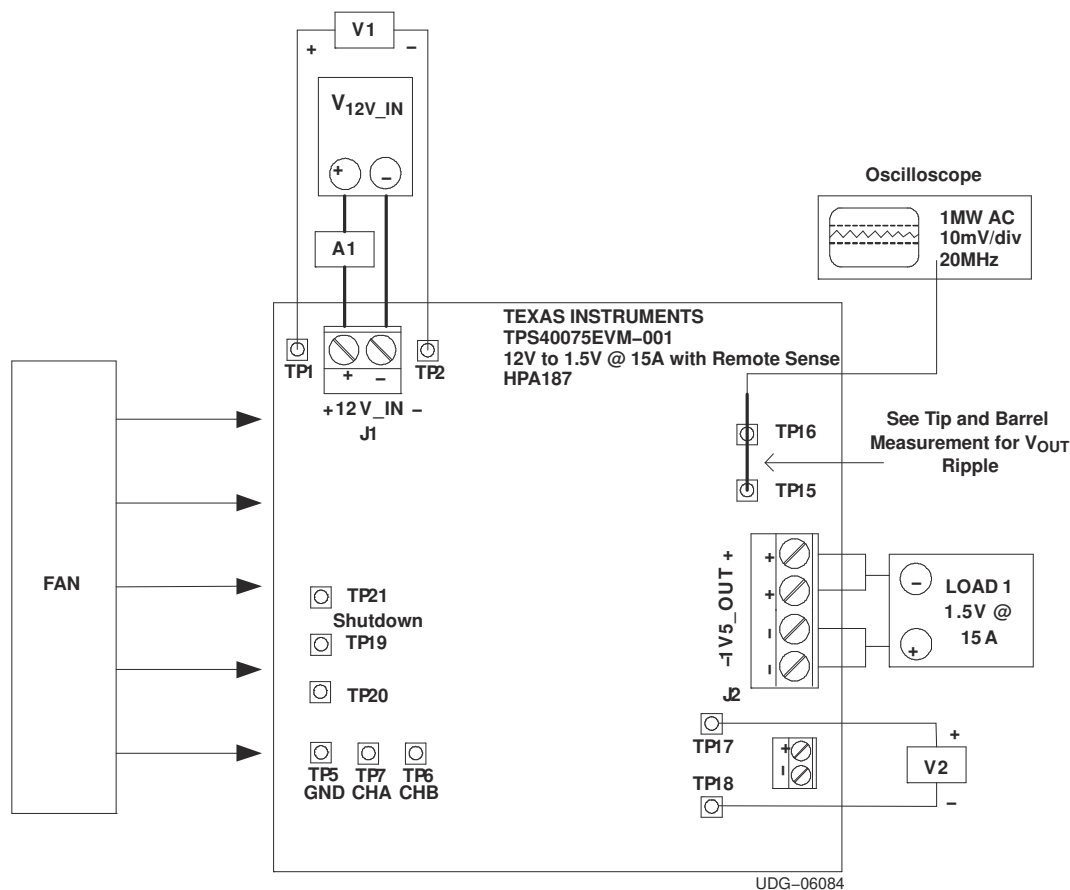
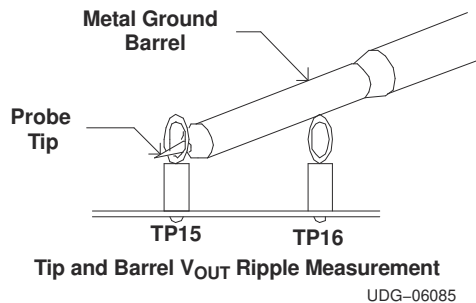

Figure 4-1. TPS40075EVM-001 Recommended Test Setup
Figure 4-2. Output Ripple Measurement – Tip and Barrel using TP15 and TP16
The input voltage source (V_{12V_IN}) should be a variable DC source between 0 V and 15 V, and capable of 5 A_{DC}. Connect V_{12V_IN} to J1 as shown in Figure 4-2.
TP15 and TP16 can be used to measure the output ripple voltage by placing the oscilloscope probe tip through TP15 and holding the ground barrel to TP16 as shown in Figure 4-2. For a hands-free approach, the loop in TP16 can be cut and opened to cradle the probe barrel. Using a leaded ground connection can induce additional noise due to the large ground loop area.
Figure 4-2 shows the basic test setup recommended to evaluate the TPS40075EVM-001. Note that although the return for J1 and J2 are the same, the connections should remain separate as shown in Figure 4-1.
2. Prior to connecting the DC input source, V_{12V_IN} , it is advisable to limit the source current from V_{12V_IN} to 5.0-A maximum. Make sure V_{12V_IN} is initially set to 0 V and connected as shown in Figure 4-1.
3. Connect the ammeter A1 (0-A to 5-A range) between V_{12V_IN} and J1 as shown in Figure 4-1.
4. Connect voltmeter V1 to TP1 and TP2 as shown in Figure 4-1.
6. Connect voltmeter, V2 across TP17 and TP18 as shown in Figure 4-1.
7. Connect an oscilloscope probe to TP16 and TP15 as shown in Figure 4-2.
8. Place a fan as shown in Figure 4-1. Turn it on, making sure air is flowing across the EVM.
Table 7-1 lists the EVM components as configured according to the schematic shown in Figure 3-1 and Figure 4-1.